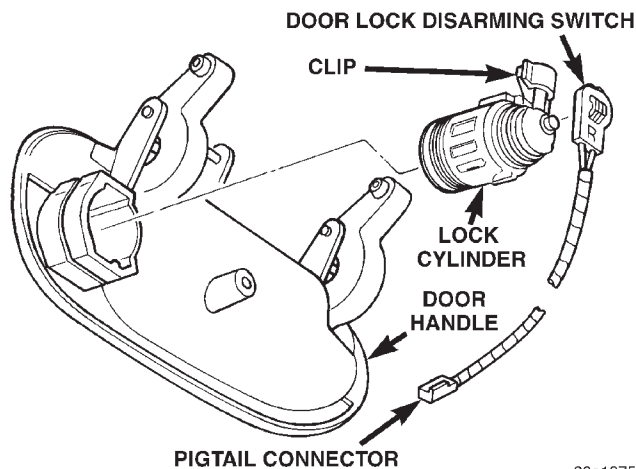

Fig. 2 Door Lock Disarming Switch
- (1) Refer to Group 23, Body for door trim and water shield removal.
- (2) Disconnect wiring clip and pigtail wire connector (Fig. 2).
- (3) Remove door lock disarming switch from door lock cylinder.